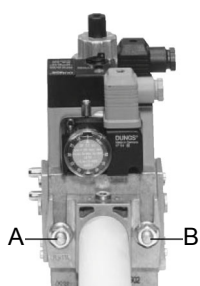
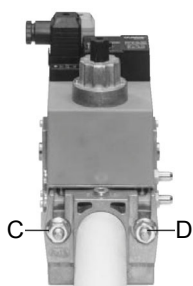
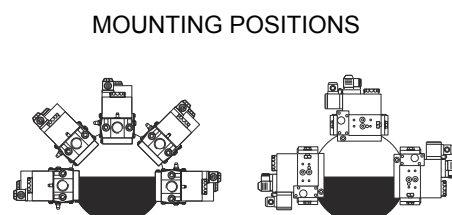

Fig. 7
Fig. 8
Fig. 10
3. tighten screws A, B, C and D (Fig. 7 - Fig. 8), according to the mounting positions (Fig. 10);